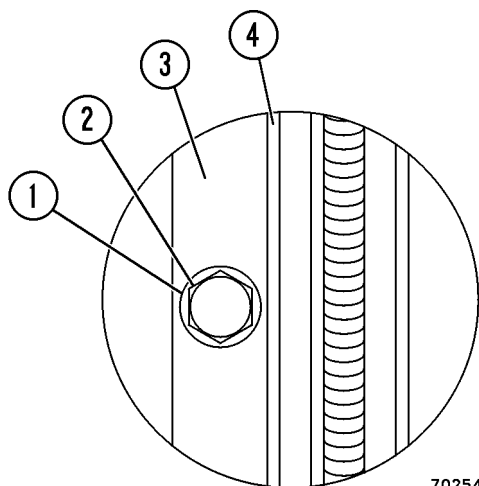

FIGURE 2-3. DOOR JAMB BOLT ADJUSTMENT
1. Mark washer location (1, Figure 2-3) portion of the door jamb bolt with a marker, pen, or pencil by circumscribing the outside edge of the washer onto the jamb.
2. Loosen door jamb bolt (2) and move it straight inwards 1.5 mm (1/16 inch) and retighten the bolt.
3. Hold a piece of paper between where door seal (4) will contact the skin of the cab and firmly close the door.